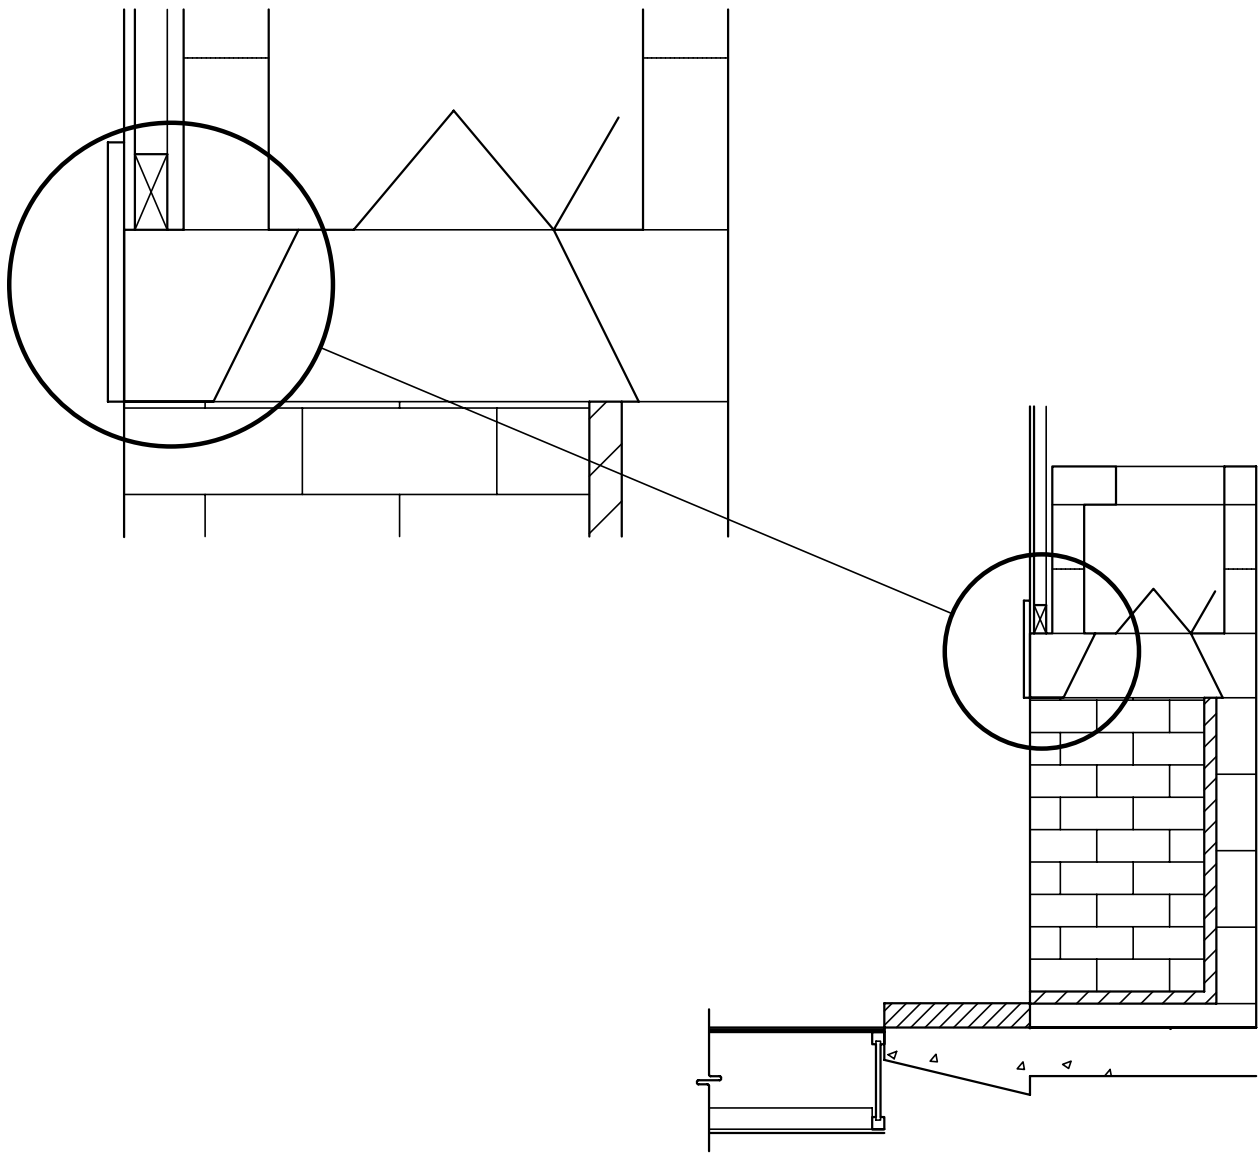

FIGURE 77
**Important:** Since there is no fire brick set along the top of the MAGNUM's firebox opening, when setting the noncombustible finished facing material (code required and supplied by others) across the top of the firebox opening there may be a gap between the back of the noncombustible finish material and the rough front face of the MAGNUM damper plate. Be sure to check for and fill any such gap with noncombustible Earthcore Mortar in conjunction with placement of the code required noncombustible finish facing material set across the top of the firebox opening. (Figure 77)